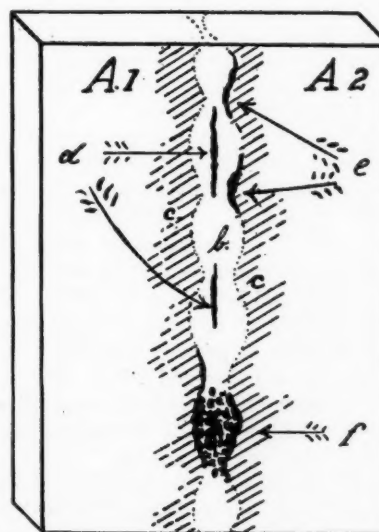

Fig. 3—Autogenous weld laid bare
Fig. 3—Beads are an essential part of the casing and the operation of making these is shown above, as done in the Goodyear factory. The stiff, frictioned material is prepared in strips wound upon spools. The operator builds up the bead from this spooled stock in a mold, using a hand roller as illustrated. The view was taken in the Goodyear factory
**HOW to Discover Flaws in Autogenous Welds**—Having found that autogenous welds which were apparently smooth and perfect frequently showed fissures, unjoined spots and slag inserts when broken open and that these imperfections affected the strength of the joints materially, a Mr. Stadler sought means for discovering such flaws by convenient inspection methods. Through experiments he finally arrived at a chemical test which he considers satisfactory. It consists in removing a thin film from the surface of the weld by etching with a mixture composed of 100 grams of water, 5 grams of chemically pure nitric acid and 5 grams of chloride of potassium. The results obtained are sketched in Fig. 3, in which  $A_1$  and  $A_2$  represent two iron plates welded together along the seam  $b$ . The work was smoothed by filing and no trace of imperfections was visible until the acid test was applied. Then appeared plainly the flaws indicated by the letters  $c$ ,  $d$ ,  $e$  and  $f$ . The uneven expansion of the iron caused by a jerky advancement of the flame is indicated by the wavy formation marked  $c$ . Unjoined portions of the work are marked  $d$ , failure of the weld metal to fuse with the edges of the seam are marked  $e$  and a slag insert is marked  $f$ . The etching also showed a coarse crystalline structure along the seam blending into the normal and more finely grained structure farther away.